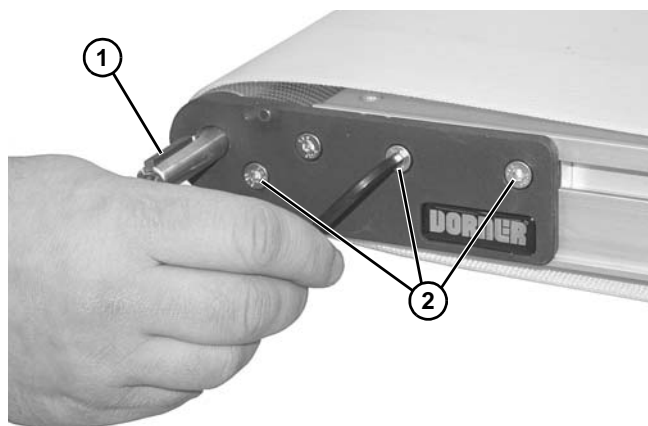

Figure 3
2. Remove key (**Figure 3, item 1**) from output shaft, if not already done.
3. Remove three screws (**Figure 3, item 2**) and discard.